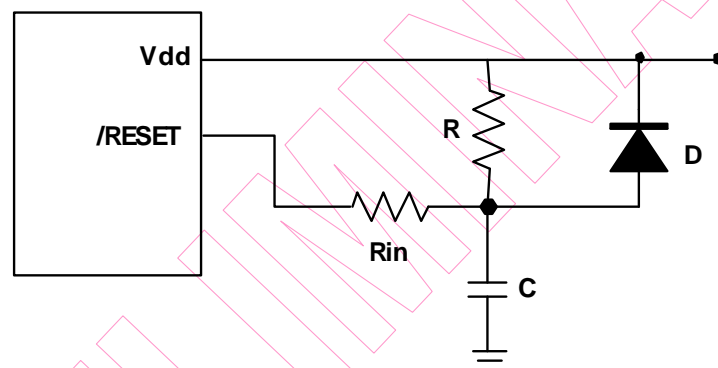

Fig. 38 External Power-Up Reset Circuit
The circuit shown in Fig.38 implements an external RC to produce the reset pulse. The pulse width (time constant) should be kept long enough for V_{dd} reached minimum operation voltage. This circuit is used when the power supply has slow rise time. Because the current leakage from the /RESET pin is about $\pm 5\mu\text{A}$, it is recommended that R should not be greater than 40 K. In this way, the /RESET pin voltage is held below 0.2V. The diode (D) acts as a short circuit at the moment of power down. The capacitor C will discharge rapidly and fully. R_{in}, the current-limited resistor, will prevent high current or ESD (electrostatic discharge) from flowing to pin /RESET.